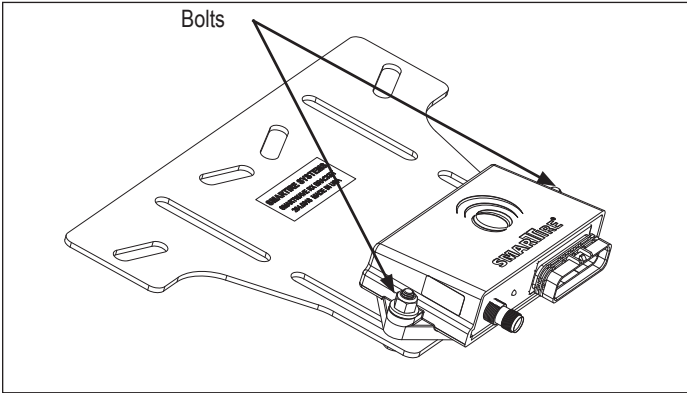

Figure 2 - Removing the ECU Bolts
- Remove the two (2) bolts securing the original Electronic Control Unit (ECU) to the vehicle chassis and set it aside. See Figure 2.